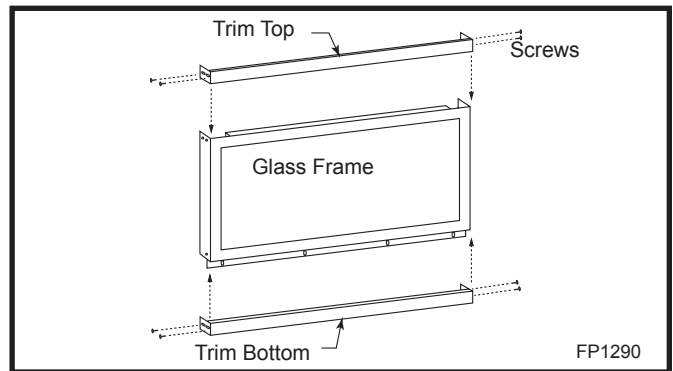

Fig. 26 Install top and bottom brass trim.
- Install top and bottom brass trim by using the shortest black screw. (Fig. 26 & 27)